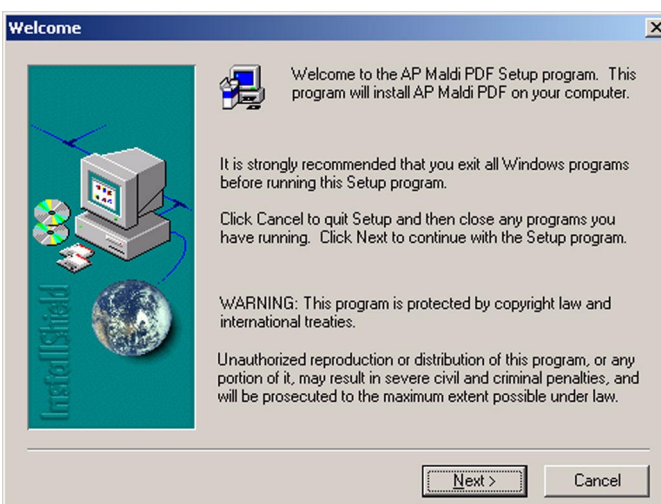

Figure 126 Target setup Welcome window
- 2 Insert the Target 5.0 software CD into the CDROM drive. The disk should start automatically and install the Target 5.0 software. If it does not start automatically, browse to the **Setup** directory and run the `Setup.exe` program. When the program starts, click the Next button to proceed with the installation. See Figure 126.